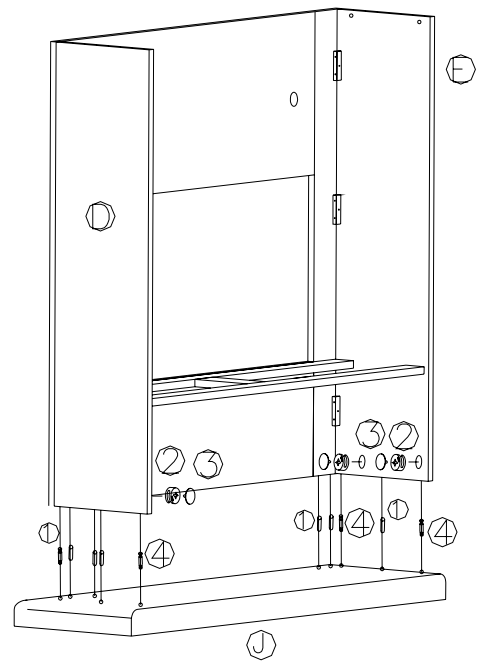

**FIGURE 3**
5. INSERT WOOD DOWELS (1), CAM-BOLTS (4) INTO PREDRILLED HOLES ON EDGES OF LEFT AND RIGHT FRONT PANELS (I, H) AND FIT INTO CORRESPONDING HOLES ON ENDS OF UPPER AND LOWER FRONT PANELS (G, F). INSERT CAM-LOCKS (2) INTO BIG HOLES ON BACK OF UPPER FRONT PANEL (G) WITH SLOT FOR SCREWDRIVER FACING OUTWARD. ROTATE CAM-LOCKS (2) CLOCKWISE TO SECURE CAM-BOLTS (4). PUSH COVERS (3) INTO CAM-LOCKS (2). AS FIGURE 3 SHOWN.